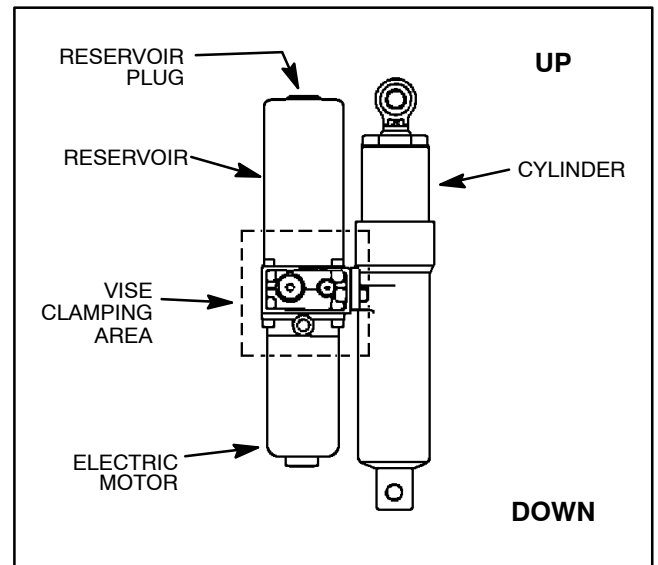

Figure 55
3. Place the actuator in a vise making sure that actuator is clamped in the area identified in Figure 55. Use just enough clamping force to hold the housing securely. Make sure that the reservoir plug is orientated up.